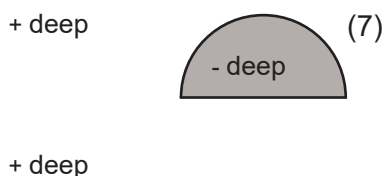
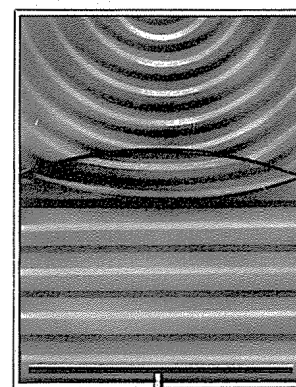

Fig. 18
Fig. 19
You can verify this by placing the convex plane body (7) as shown in figure 18. To reduce the effects of surface tension, we recommend adding a few drops of hand soap (not supplied) and dissolve it in the water; be careful not to create foam. The emerging wave is not flat but circular and converges in the focus of the lens (fig. 19). To observe the curvature of the wavefront it is necessary that the water level above the convex body is very low (less than 1 mm).